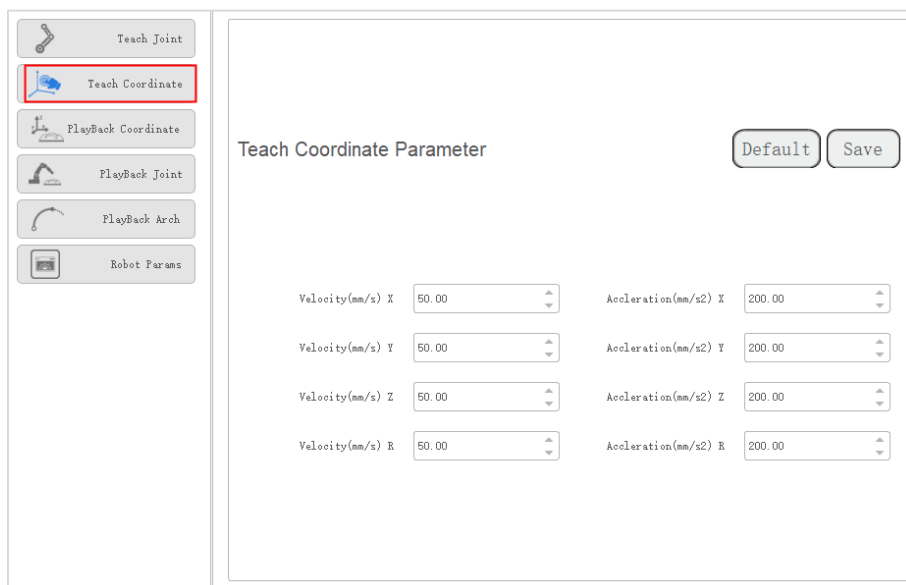

Figure 3.38 Jogging parameters in the Cartesian coordinate system
- Set the maximum velocity and acceleration in the Cartesian coordinate system when jogging a robot. The jogging parameters of a robot in the Cartesian coordinate system are as shown in Figure 3.38.